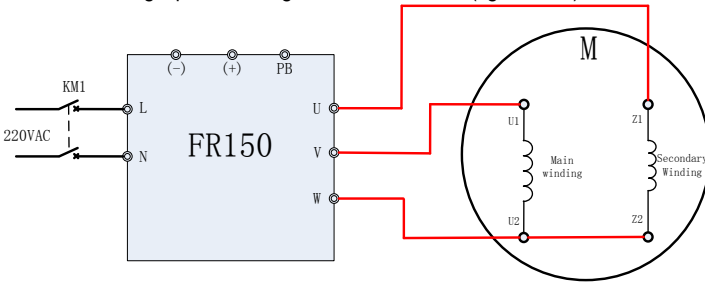

Fig. 6-18
- Inverter connect to single phase:Wiring of FR150A forward (figure 6-18)